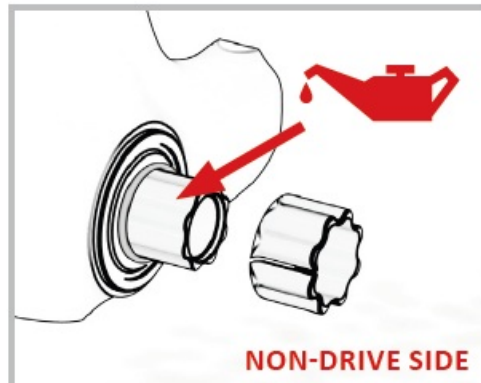
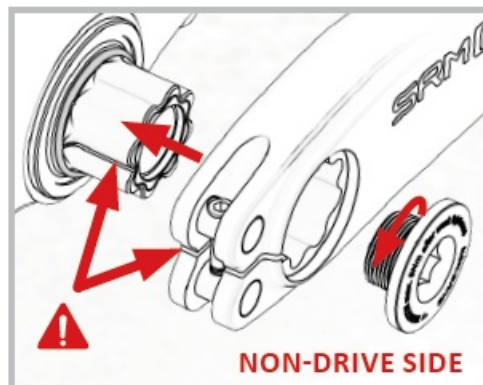

FIG. 2
FIG. 3
- Apply grease to axle and install non-drive crank reducer till it contacts the o-ring (Fig. 2). Next install the non-drive crank, making sure that the crank is rotated 180 ° to the drive-side crank arm. Slits in the reducer and non-drive crank MUST be aligned (Fig. 3).
- Apply a light thread locker (violet) to the threads of the 10mm axle bolt and tighten counterclockwise (left-handed thread) slightly with a 10mm Allen key (Fig. 3) until the spacers touch the o-ring and the crank is free of axial play.